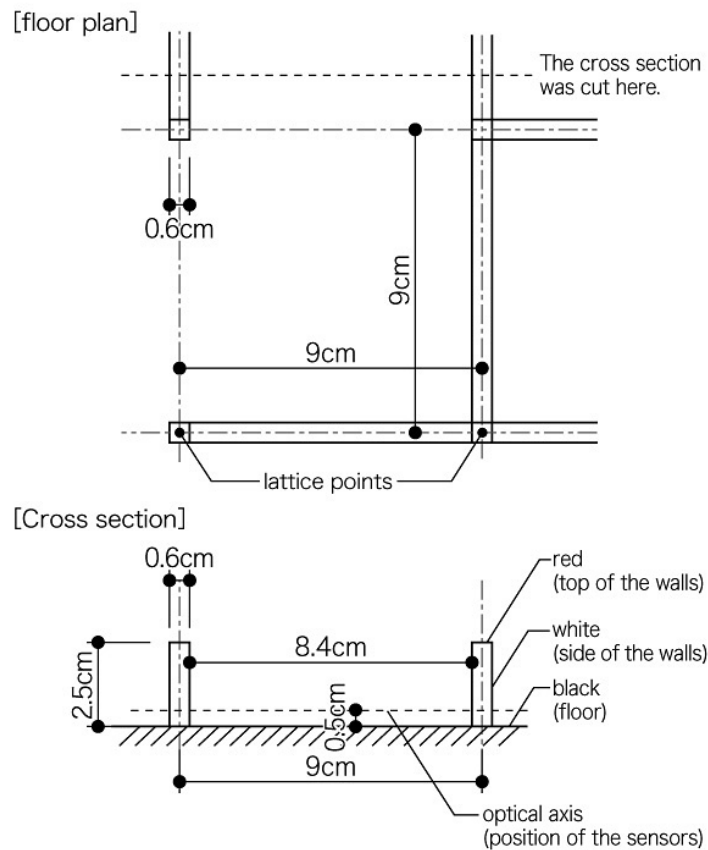

Fig. 1. Structure of the maze
- 2.2. The maze are composed of 9 x 9 cm unit squares. The maximum number of squares will be 32 x 32 squares. The height of the walls is 2.5 cm and its thickness is 0.6 cm (see Fig. 1 for details).
- 2.4. There are Small square zones, each 0.6 cm x 0.6 cm, at the four corners of each unit square. This zone is called lattice points, and a maze are built so that there are at least one wall to a lattice point except for the interior of the finish zone (see Fig. 1 for details). The entire maze will be completely surrounded by exterior walls (see Figs. 1 and 2).
Type: Transmission infrared sensors. Optical axis placed 0.5 cm above the floor. (See Fig.1)